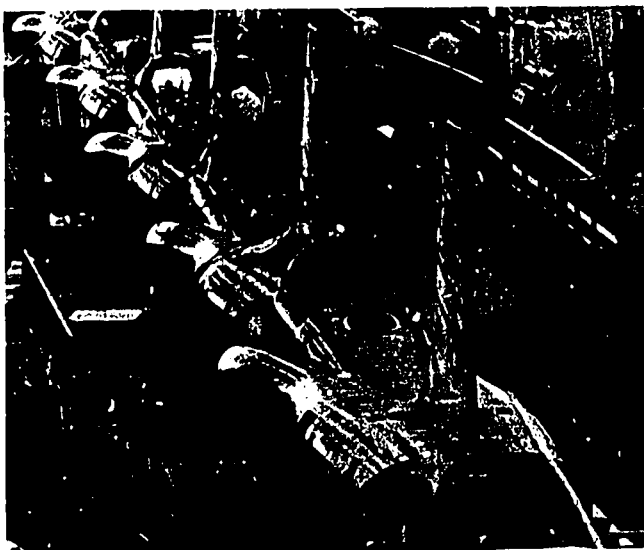

Fig. 53-1. Airplane Fuselage
1. Look at each illustration, Figs. 53-1 through 53-20.
2. On Fig. 53-21, check the stage of production you think is shown in the illustrations, Figs. 53-1 through 53-20.